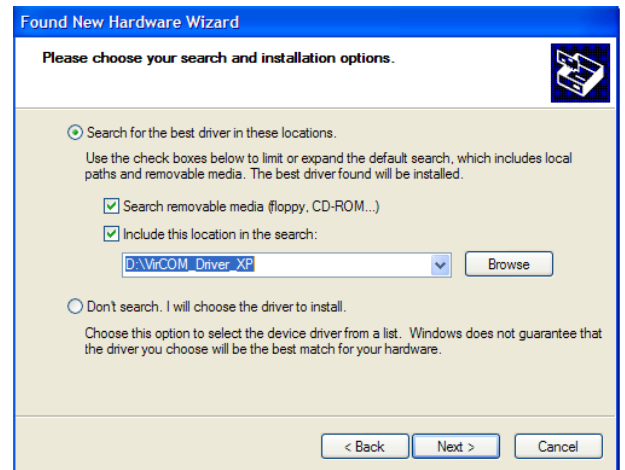

Figure 4. Search for Driver Window
The window shown in Figure 4 appears.
The following window opens (see Figure 4).
4. Select **Search removable media (floppy, CD-ROM)** and **Include this location in the search** (see Figure 4). Use the **Browse** button to locate the **Windows XP and VISTA** or **Windows 7 (64 bit)** folder in the **VirCOM_Driver_XP** folder downloaded from the ADE7953 evaluation board Web page.